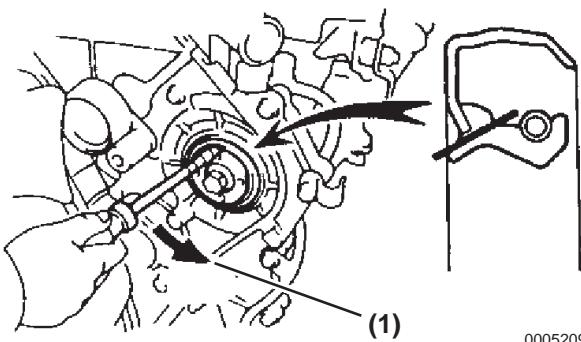

Figure 5-209
1. Cut off the oil seal lip using a knife (**Figure 5-209**).
2. Pry the oil seal using a screwdriver (**Figure 5-209, (1)**) to remove.